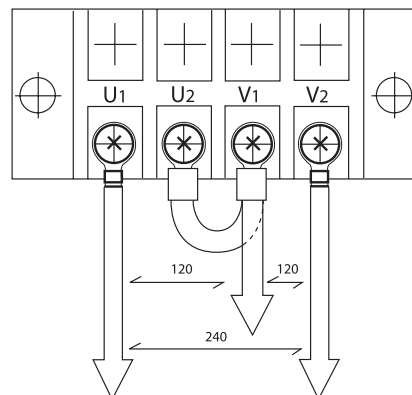

Figure 25: Output Terminal Board, 120/240 Volt Output
- Connect U2 and V1 on the output board (Figure 25). Connect output leads to U1 and V2 and neutral lead to V1 (or U2). 240 volt output is available from the leads connected to U1 and V2. The 120 volt load should be divided as equally as possible between two 120 volt circuits.